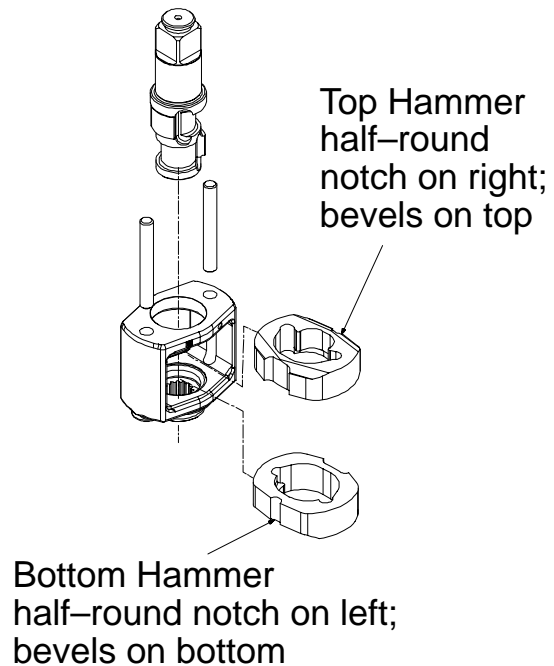

Figure 17
3. Replace the Hammers in the Hammer Frame (13) exactly as they were when you marked them prior to disassembly.
4. Replace the Hammer Pins (14).
5. Examine the base of the Anvil (9) and note its contour. While looking down through the Hammer Frame, swing the top Hammer to its full extreme one way or another until you can match the contour of the Anvil. Insert the Anvil into the Hammer Frame and through the first Hammer. Swing the bottom Hammer in the opposite direction from the top Hammer and maneuver the Anvil slightly until it drops into the bottom Hammer. See Figure 17.
**NOTICE:** Be sure to position the Top Hammer with the half-round notch on the right and the bevels on the top, and the Bottom Hammer with the half-round notch on the left and the bevels on the bottom, as shown in Figure 17.